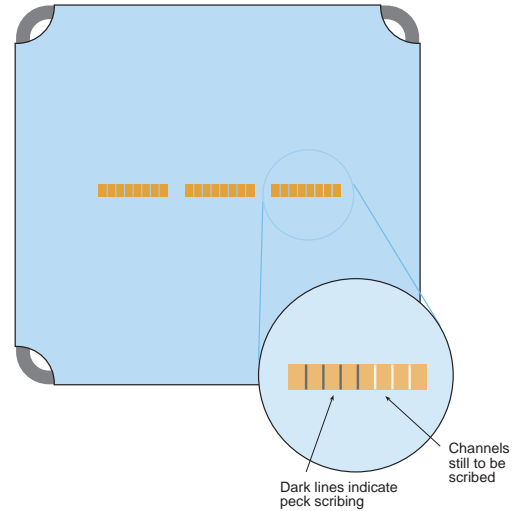
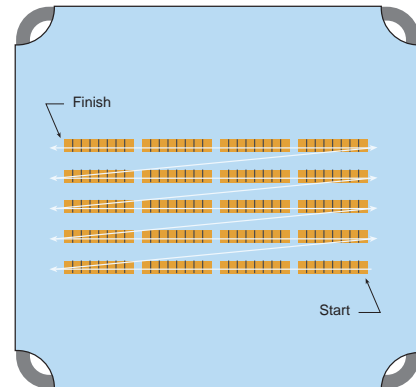

Fig. 2. Auto scribing (“Pecking”) one row with three bars of 8 diodes each.
Fig. 3. New software provides semi-automatic scribing and breaking for multiple rows of regularly-space laser diode bars.
The conventional LSD-100 can peck and break approximately 12 per minute. Furthermore, the bars can only be placed on the holding film in a single row as shown in Fig. 2. With the High Throughput modification, each bar is completely peck-scribed and then the peck scribes are broken all at once. The average rate is up to 35 devices per minute.
1. Laser bars are arranged on the film frame assembly (Fig. 2.). Multiple rows may be processed on one piece of film (Fig. 3.)